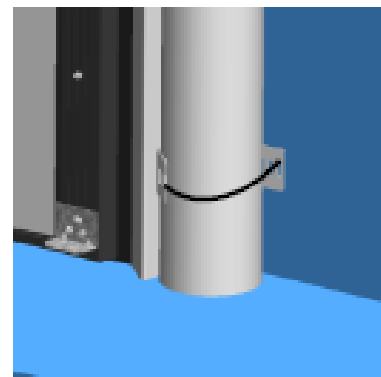

Figure 18A. Attaching Counterweight Tubes
12. Fit one long and one short Counterweight Tube tightly together and slide them over the counterweights, with the longer tube on the bottom, until the tubes are flush to the mounting rail. Be sure to seat the tubes all the way, otherwise they may pull apart resulting in damage. Utilizing the slots on the Counterweight Tube Brackets, attach the Counterweight Tubes to the Counterweight Tube Brackets with the provided CP2034 Tie Wrap (**SEE FIGURE 18A**).